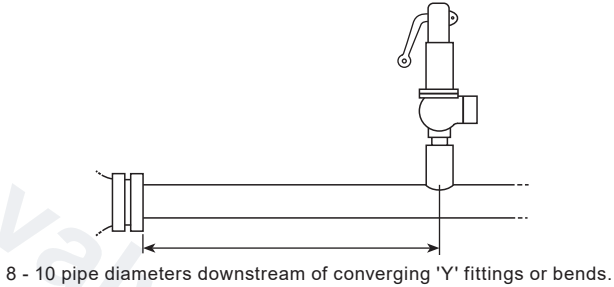
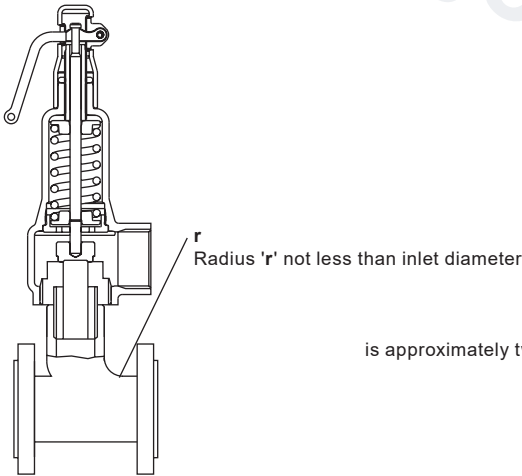

Fig. 6
Fig. 7
- 6.4** The inlet pipe connection should not be smaller than the valve (see Figures 7 and 8).
The safety valve should be fitted 8-10 pipe diameters downstream of any converging or diverging fittings or bends, see Figure 6. Inlet branches should be as Figure 7 or 8.